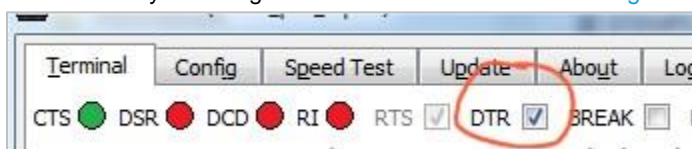

Figure 4: Reassert DTR
9. Assert DTR by checking the DTR checkbox as shown in Figure 4.